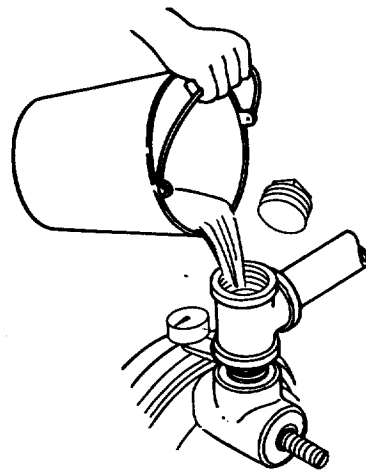

Figure 7
When using a foot valve, a priming tee and a plug as shown in Figure 7 is recommended.
2. Remove priming plug. Fill pump with water. Replace priming plug. If a priming tee and plug have been provided for a long horizontal run, be sure this line is filled and the plug replaced, using pipe compound on plug threads. See Figure 7, Page 7.
3. Start the pump and run for approximately thirty (30) seconds. Stop pump, remove prime plug and refill with water. Replace prime plug and gauge and restart pump. Water will be pumped in a few minutes, the time depending on the depth to water and length of horizontal run. If pump does not prime, check for a possible leak on the suction side of pump. Check to be sure suction lift - distance from water level to pump - does not exceed twenty (20) feet.